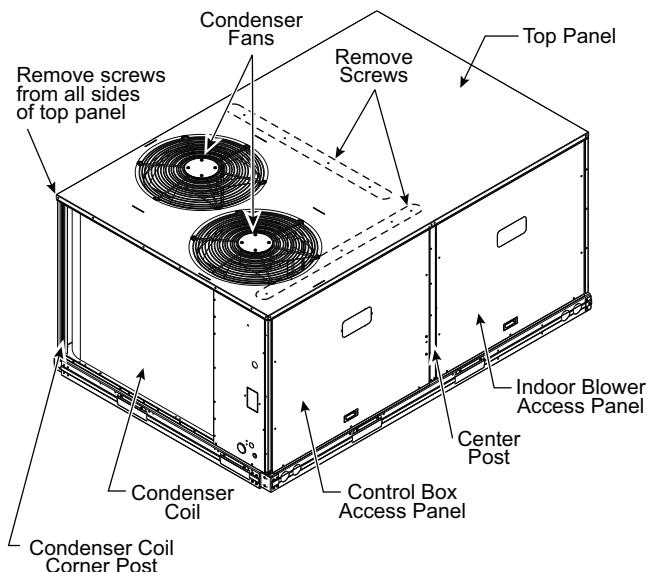

Fig. 15 — Location of Screws and Coil Corner Post (07-08 size unit shown)
2. Remove all screws from the top panel except the screws securing the condenser fan to the top panel. (See Fig. 15 and 16.)